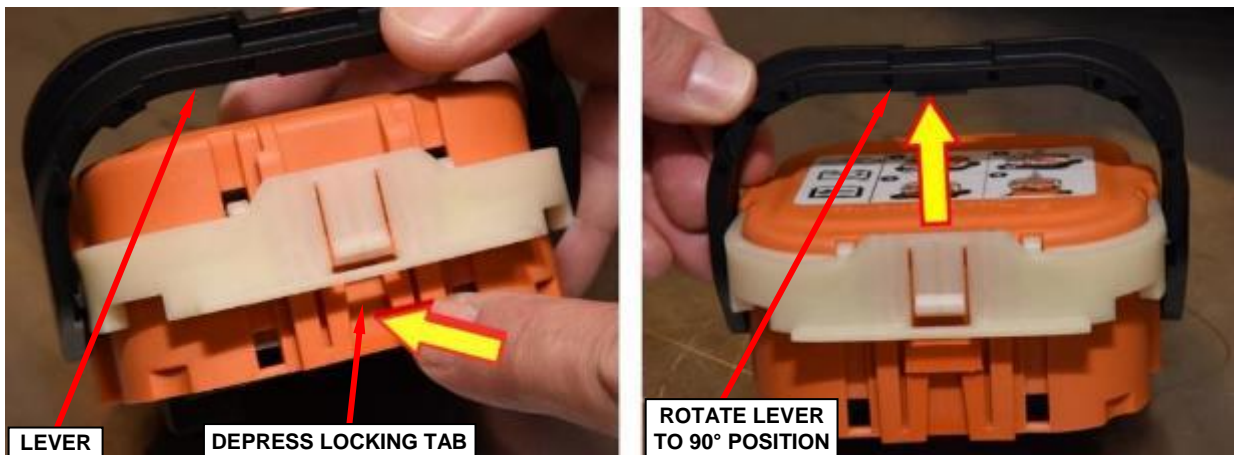

Figure 15 – High-Voltage Manual Service Disconnect Second Stage Latch Release
- Depress the locking tab and continue to rotate the lever to the end of travel, 90° position (Figure 15).